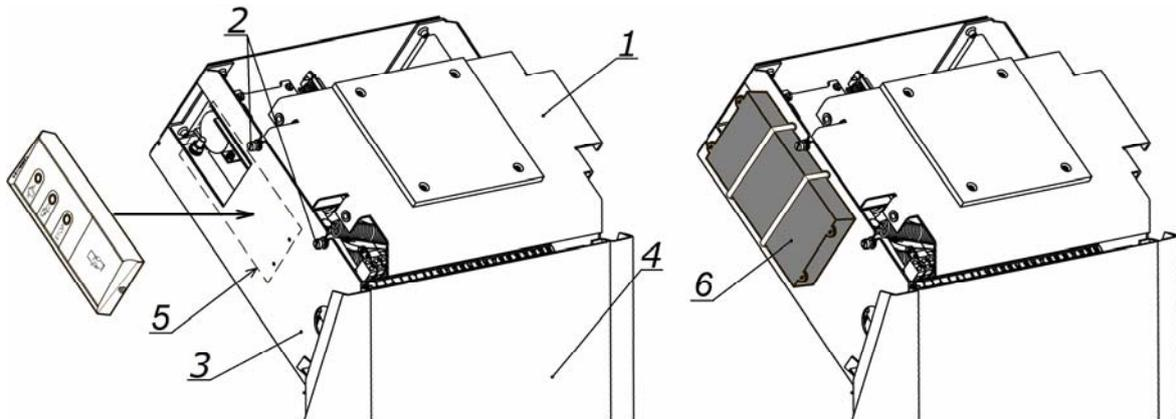

Figure 11. Turnstile with cover removed
6. Remove the cover (2) in order given in Chapter 6.
7. Remove the reinforcement plate (see Fig. 11). To do so first loosen 4 fixing screws of the plate with the flat slot screwdriver.
14. Connect the power cable (11) from the turnstile power supply to **XS1** connector block.
16. If needed, install the proximity card readers into the special places, situated in the housing (5 in Fig. 11).
In the turnstile housing there are two threaded holes for attaching readers **IR03.1**. To install other types of readers, you can install them with double-sided tape, as well as with screws or plastic ties, drilling holes in place. To do this, drill holes in place (see. Fig. 11). To connect card readers use free contacts (15 - 24) of the **XS1** connector block.